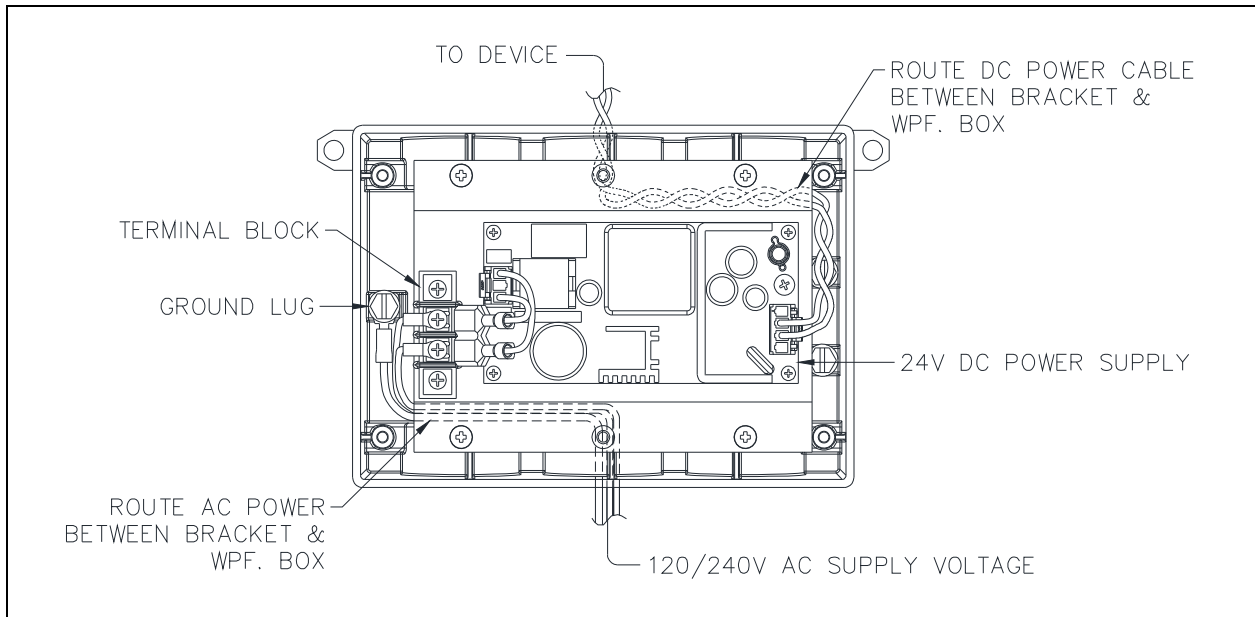

Figure 3. Wiring Routing
5. Plug in the cable harnesses and route wires (see Figure 3).